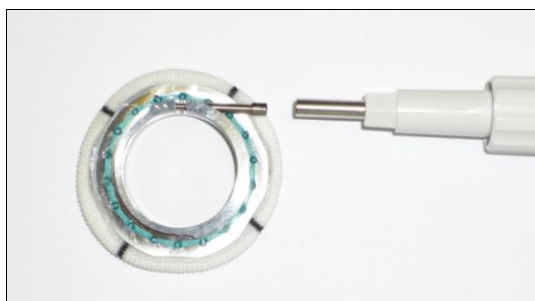

Figure 66: Sewing ring wrench
10. Use the sewing ring wrench (Figure 66) to tighten the sewing ring's screw around the HVAD® Pump inflow conduit. Use the wrench to tighten the screw until an audible "click" is heard.